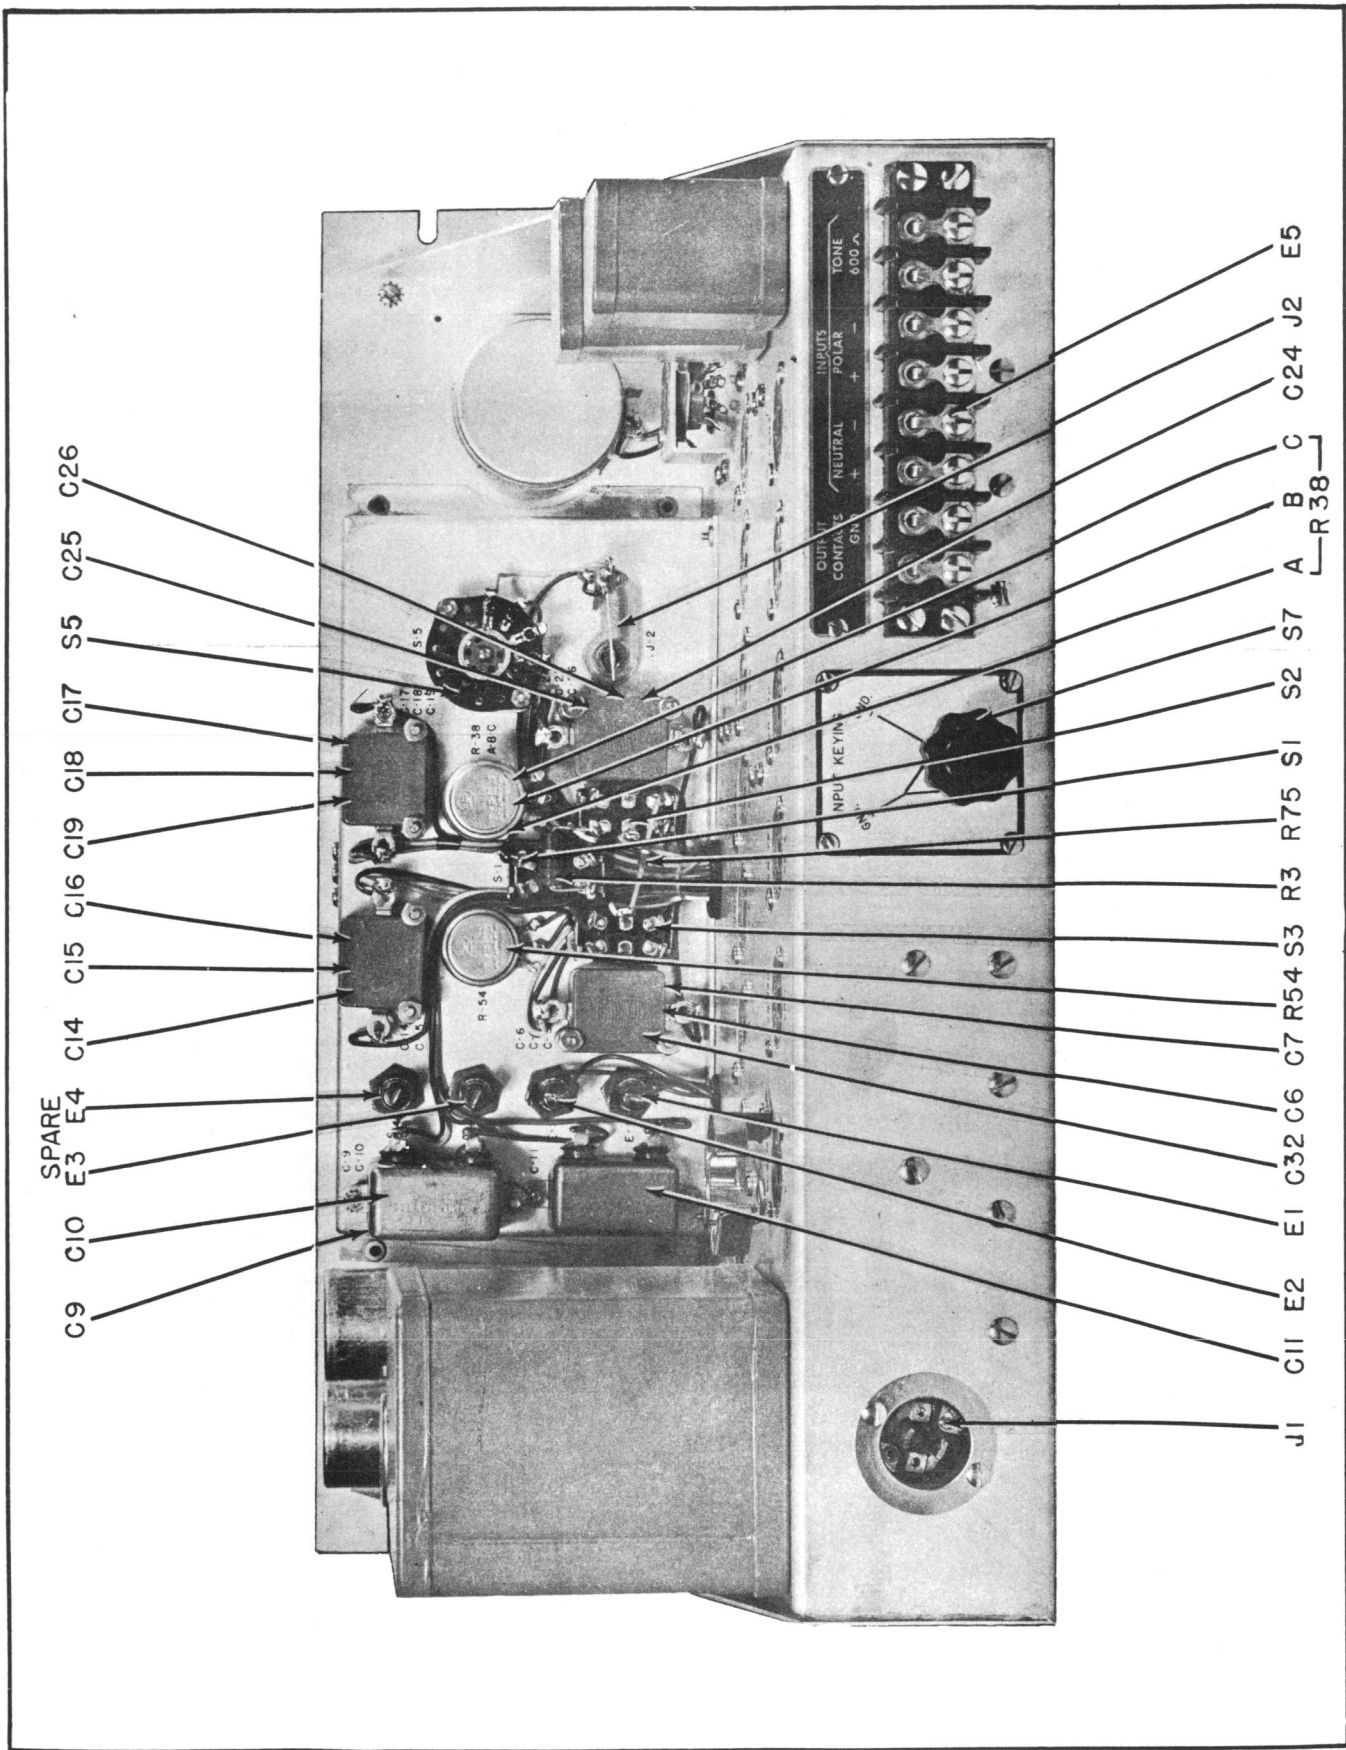

Figure 7-2. Part Location Behind Sub-Panel
*(a)* All circuit components mentioned in Table 7-1 are illustrated in Figures 7-2 and 7-3 which represent the Part Locations Below Chassis and Part Locations Behind the Sub-panel. All parts shown on the Schematic Diagram, Figure 7-5 may be found in either Figures 7-2 or 7-3. The bottom plate must be removed from the chassis to gain access to the parts under the chassis. The dust cover behind the sub-panel must be removed to gain access to parts in this location.
(1) ELECTRICAL ADJUSTMENTS.—The adjustments of all front panel and sub-panel controls of the Regenerator are described in Section 3-2b. Failure to secure proper operation of the Regenerator when all circuit components, voltages and signals appear normal is probably due to misadjustment of sub-panel controls or to improper setting of variable resistor R42 and R72 located below the chassis. See Figure 7-2.
(2) MECHANICAL ADJUSTMENTS.—There are no mechanical devices in the Regenerator which require adjustment.